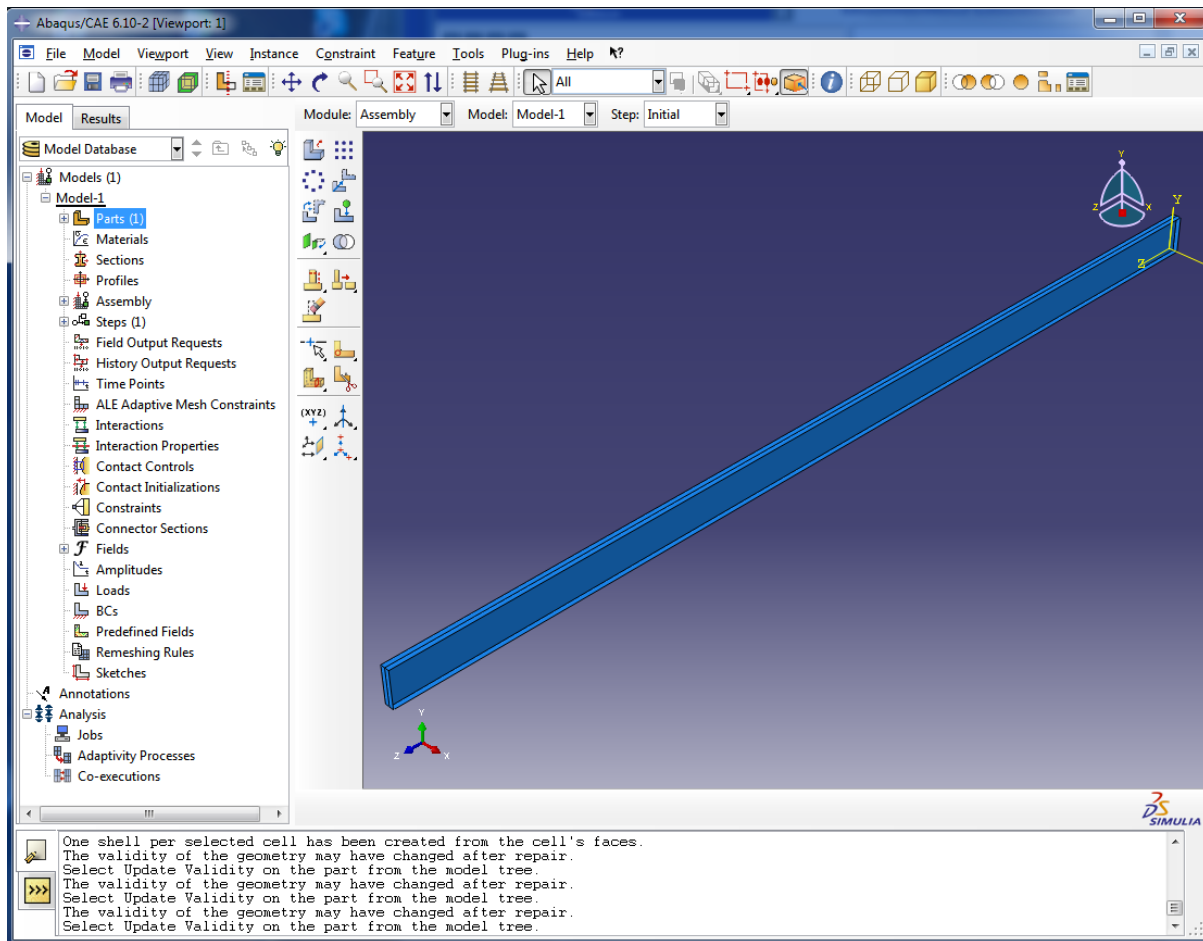

Figure 4 Sketch of the I-beam
- b. Now hold down Ctrl+Alt and use Mouse Key 1 to rotate the model so that the opposite side surface becomes visible. Repeat item 4.a. for this surface.
- d. The geometry has now been defined – except the shell thickness. The model should appear as shown in Figure 4. Note that the beam axis is parallel to the z-axis.